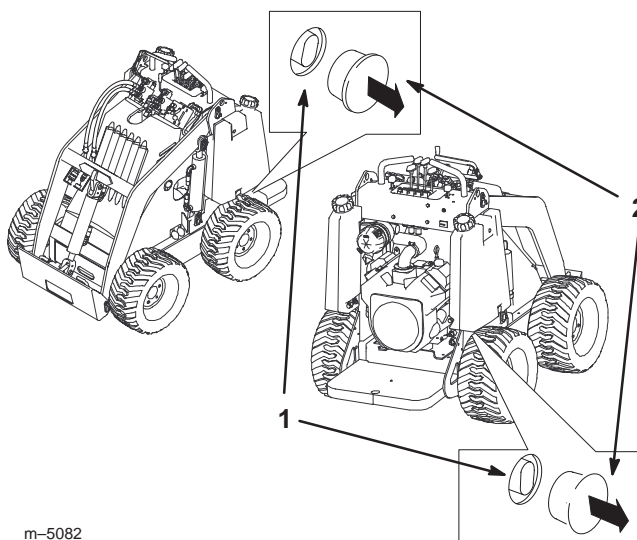

Figure 12
2. Remove the plug covering each tow valve (Fig. 12).
3. Loosen the jam nut on each tow valve (Fig. 12).